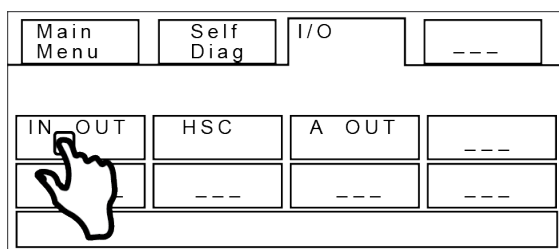

Figure 41. I/O Screen
- f. On the I/O screen touch the **IN OUT** button (see Figure 41)